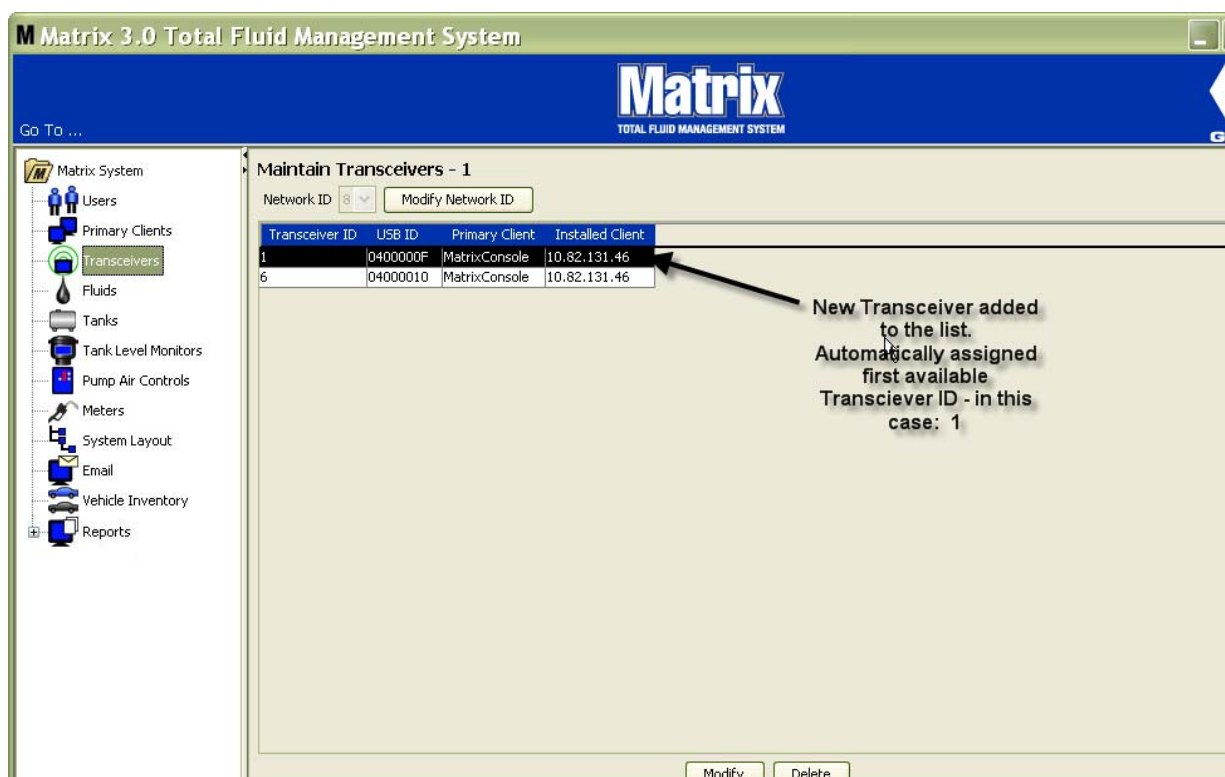

FIG. 99
1. When a transceiver is plugged into the PC USB port it automatically is added to the top of the list and assigned the first available Transceiver ID number as shown in FIG. 99. Unplugging or powering down the transceiver will not cause transceiver to disappear from the list of transceivers, although either operation will cause communication over that device to stop immediately.